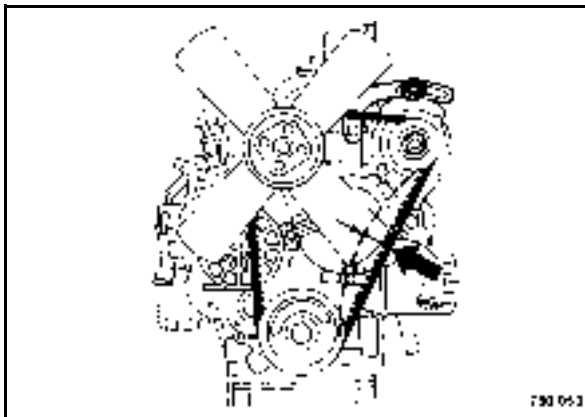

Fig. 103
- Check the entire circumference of the V-belt (Fig. 103) for damage and cracks. Replace damaged or cracked V-belts.